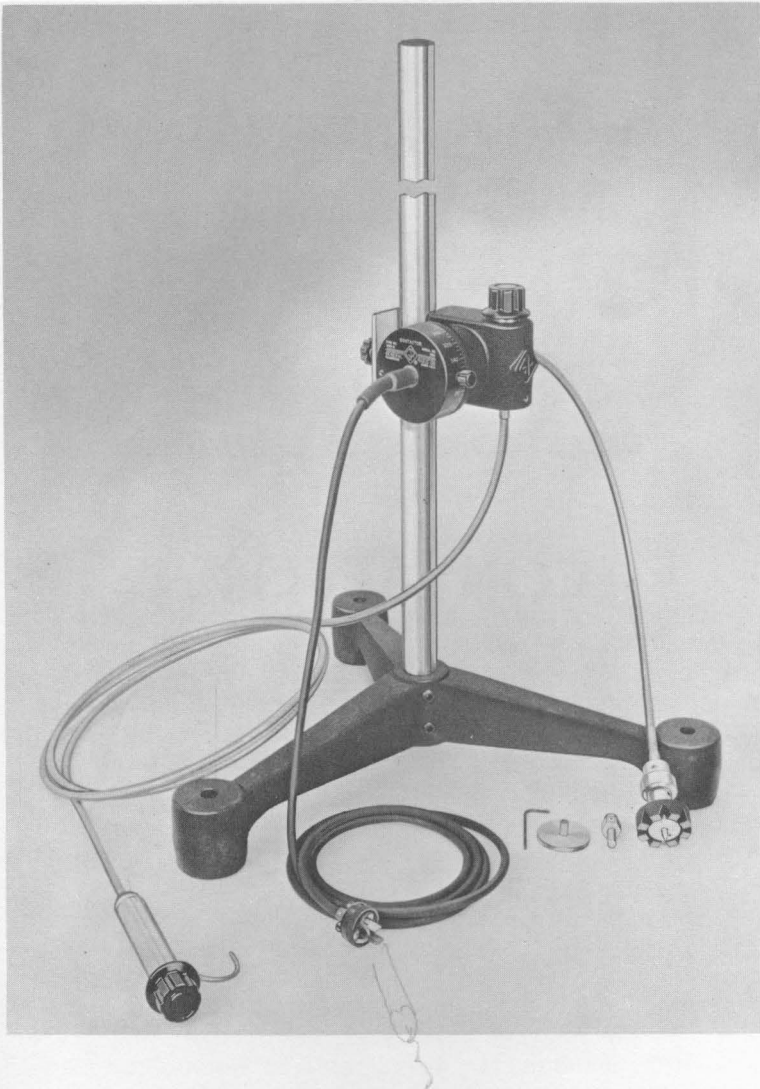

Figure 1. Type 1535-B Contactor.
1.1 PURPOSE. The Type 1535-B Contactor (Figure 1) is a control and coupling device for synchronizing a stroboscope with a rotary shaft so that motion can be observed as a function of shaft angle. It is especially useful in the examination of relatively low - speed machinery, with the Type 1532-D Strobolume, in such applications as the timing of loom shuttles and the adjustment of register in printing. It can be used equally well with the Strobotac® electronic stroboscope or with the combination of Strobotac and Strobolux, at speeds up to 1000 rpm. For higher speeds the Type 1536-A Photoelectric Pickoff should be used.